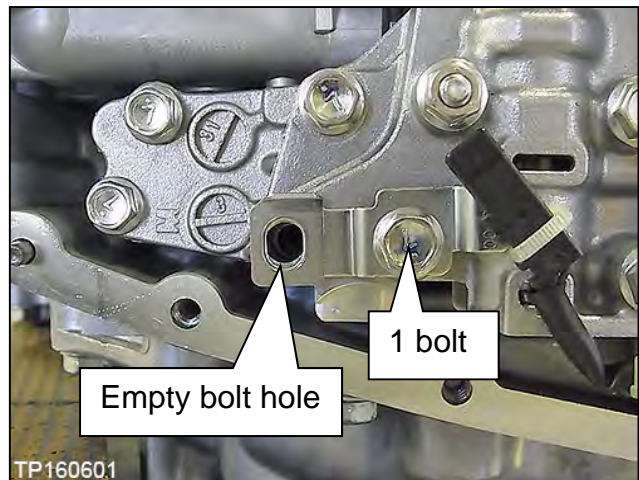

Figure 158
120. Install the CVT fluid temperature sensor bracket to the control valve with one (1) bolt (Figure 158).
**HINT:** Leave one (1) bolt hole empty as it will be used to secure the oil strainer at a later step.